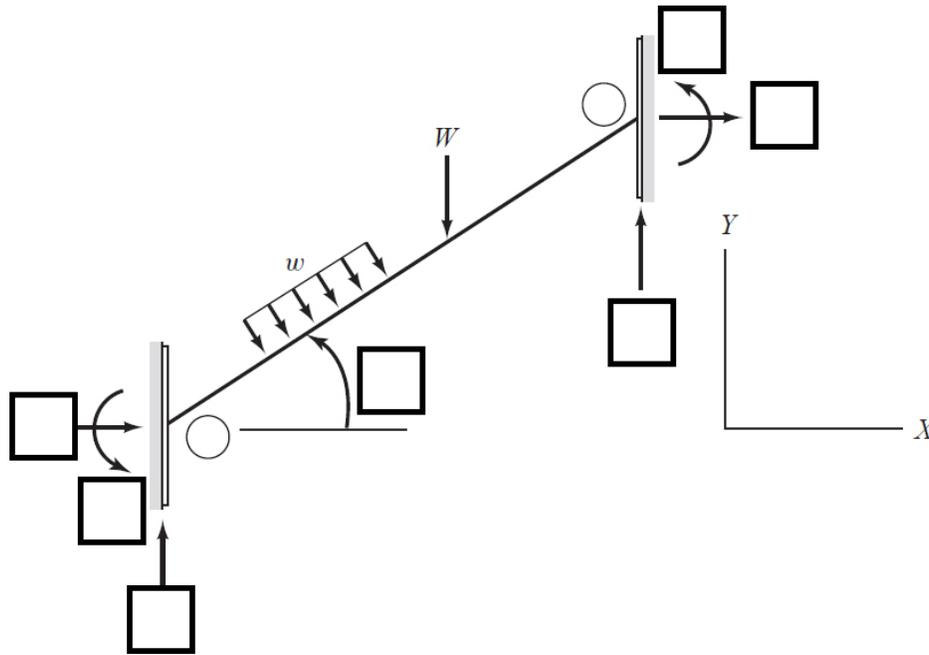

Figure 29. Member fixed-end force vector in _____ coordinate system.
- 3) The **orientation of the two fixed-end force vectors** are illustrated in Figures 29 and 30.